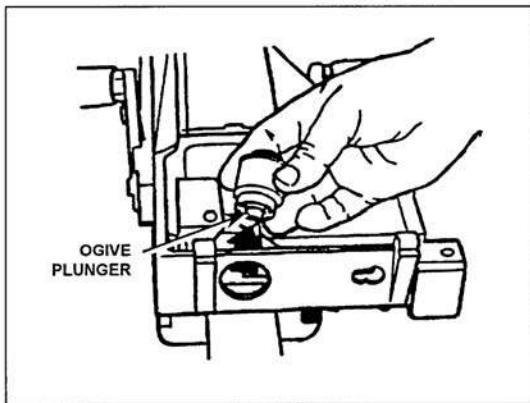

Figure 071-030-0001-11. Removal of the ogive plunger
- i. Remove the round positioning block (figure 071-030-0001-12).